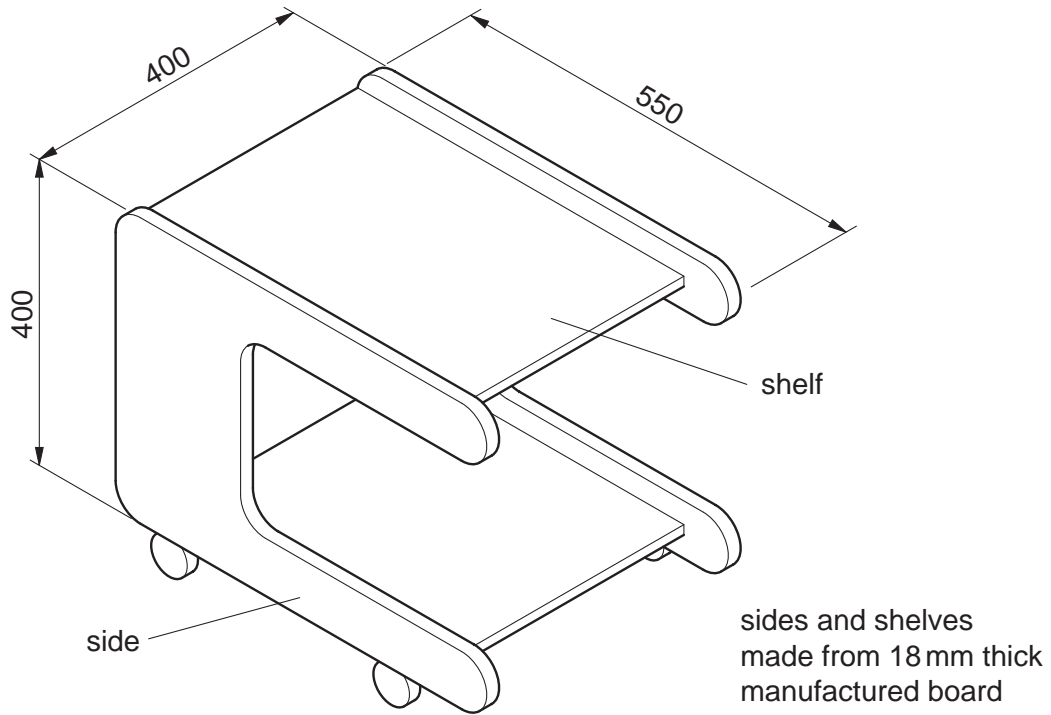

Fig. 3
- 2 Fig. 3 shows a trolley used in a home.